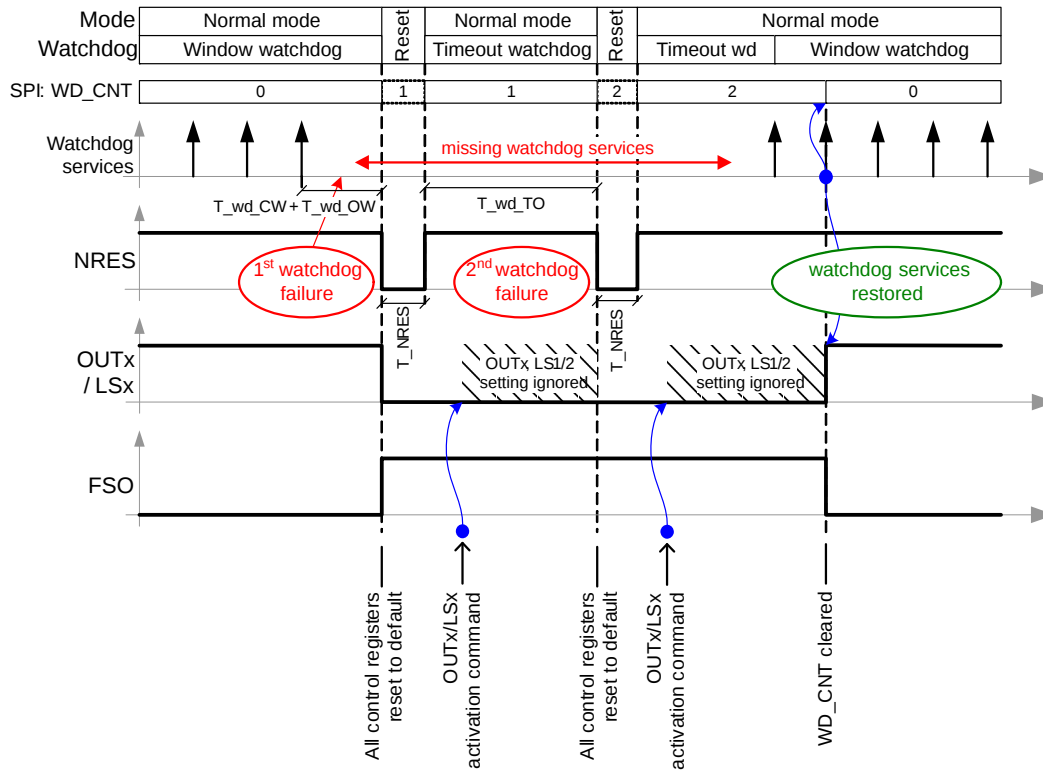
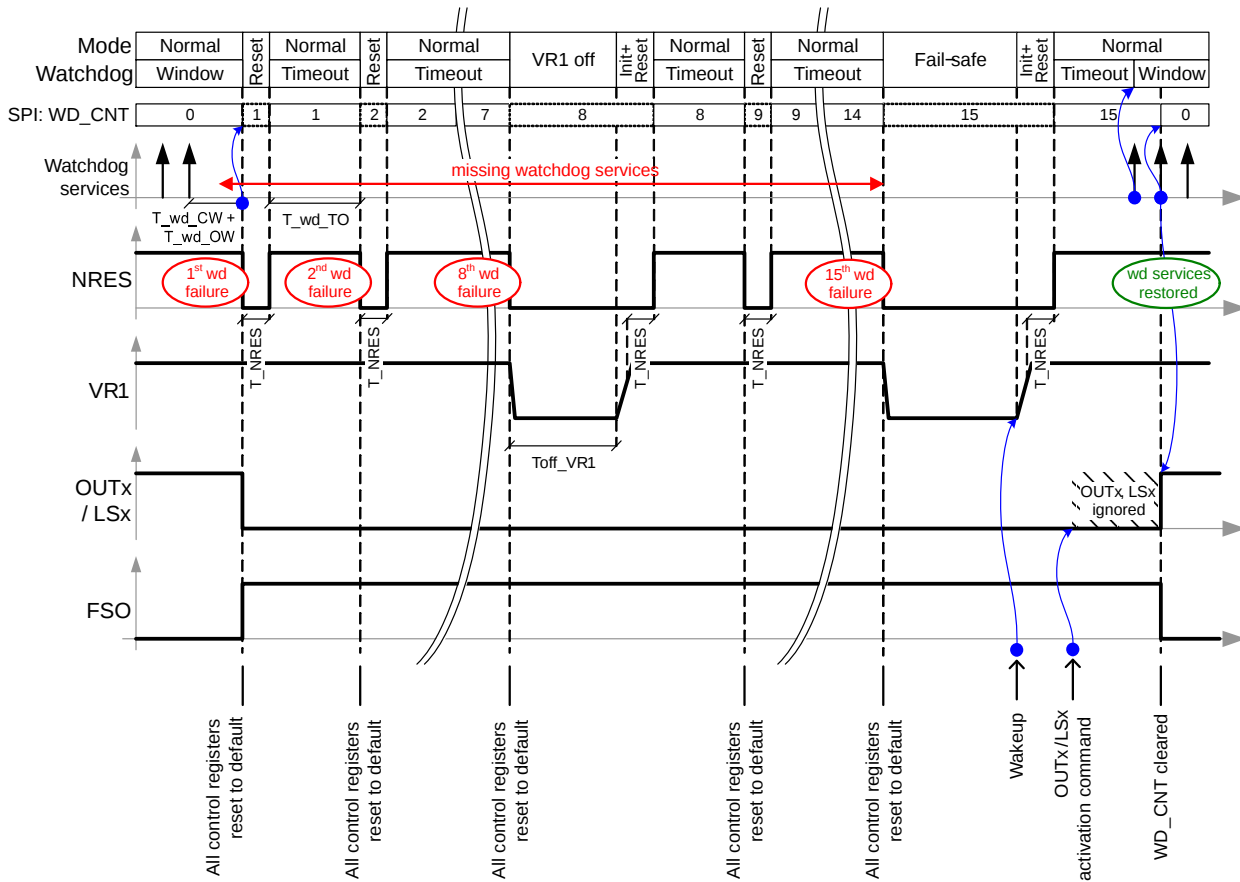

Figure 17. Watchdog Failure – Isolated Events
Figure 18. Watchdog Failure – Multiple Events
- **Failure:** If the watchdog is not triggered correctly (trigger not sent during timeout or open window; or sent during the closed window), reset is generated on pin NRES and the “WD_TRIG” bit is reset to “0”. After the NRES release, the watchdog always starts in the timeout mode. Watchdog failures are counted and their number can be read from the SPI status registers (bits “WD_CNT[3:0]”). After eight watchdog failures in sequence, the VR1 regulator is switched off for 200 ms. In case of seven more watchdog failures, VR1 is completely turned off and the device goes into Fail-safe mode until a wake-up occurs (e.g. via the LIN bus). Second successful watchdog trigger (first in window mode) resets the failure counter. Watchdog failure handling is shown in Figure 17 and Figure 18.